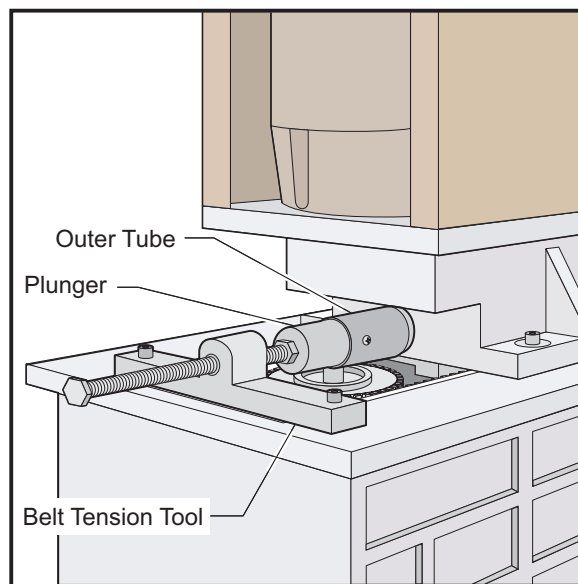

Figure 3.3-3 Belt tension tool.
5. Set the belt tension tool in place as shown in Figure 3.3-3. Mount it to the head casting by inserting the two SHCS into the two front TRP mounting holes. Tighten the SHCS finger tight.